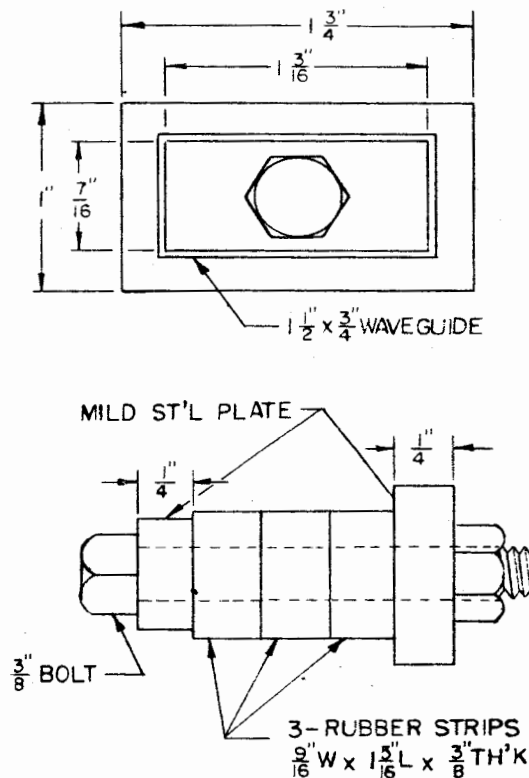

Figure 11-34. Expansion Plug for Painting 1-1/2 x 3/4 inch Waveguide
(1) BRASS AND STAINLESS STEEL WAVEGUIDE. - For painting the inside surfaces on the waveguide, expansion plugs as shown in Figure 11-34 can be used. Install the expansion plug on one end of the guide and tilt the guide so this end is down. Pour zinc chromate paint into top end of guide until approximately one-quarter full and install top expansion plug. Turn guide up and down so paint can cover interior. Remove plugs and pour paint back into container. Dry the guide by hanging in a vertical position.